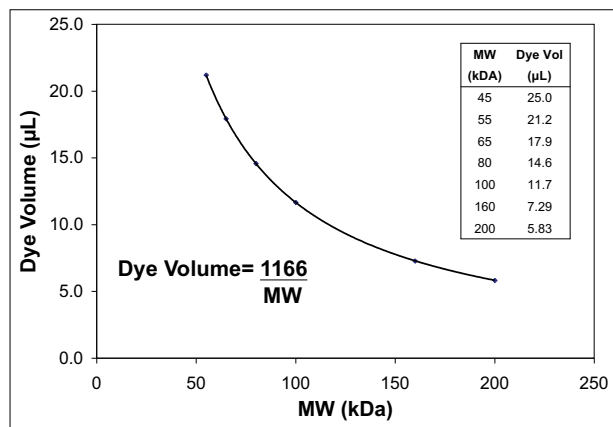

Figure 2. Suggested dye amounts based on protein molecular weight.
1. Use Figure 2 to determine the appropriate amount of dye to add based on the molecular weight of the protein.
- Using the dye amounts shown in Figure 2 typically results in a D/P ratio of 1:1 to 3:1.